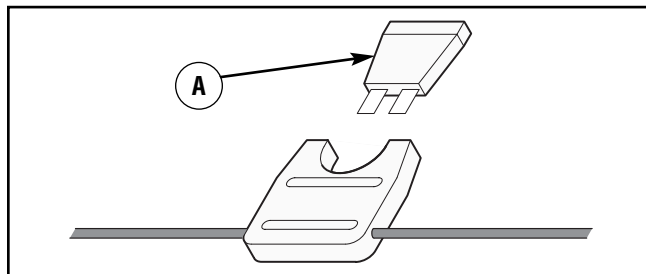

Figure 46: Fuse location
If the fuse is blown, the engine will not start. The location of the fuse is behind the panel between the engine and the control console. Remove the fuse and replace with an automotive fuse of equivalent rating (Figure 46).
2. Turn the **light socket** until the tabs on the socket align with the notches in the **bezel** (Figure 46). Remove the **light socket**. Turn the **light bulb** and remove the bulb.